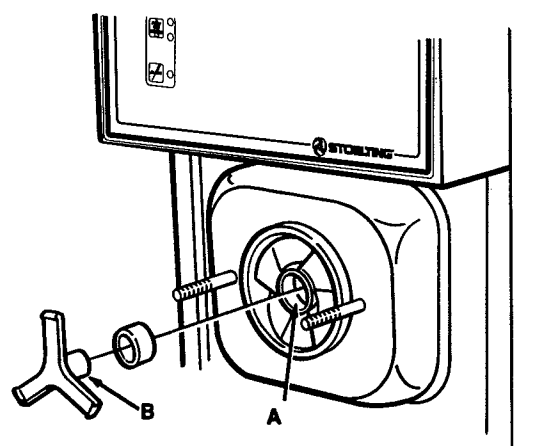

Figure 46. Auger Assembly Engagement
- K. Engage the auger into the drive socket by slowly rotating the front of the auger and pushing in, until the auger drops into position. (See Fig. 46.)
- L. Apply a **thin** film of sanitary lubricant to inside of hole on front of auger and auger support. (See A and B, Fig. 46.)